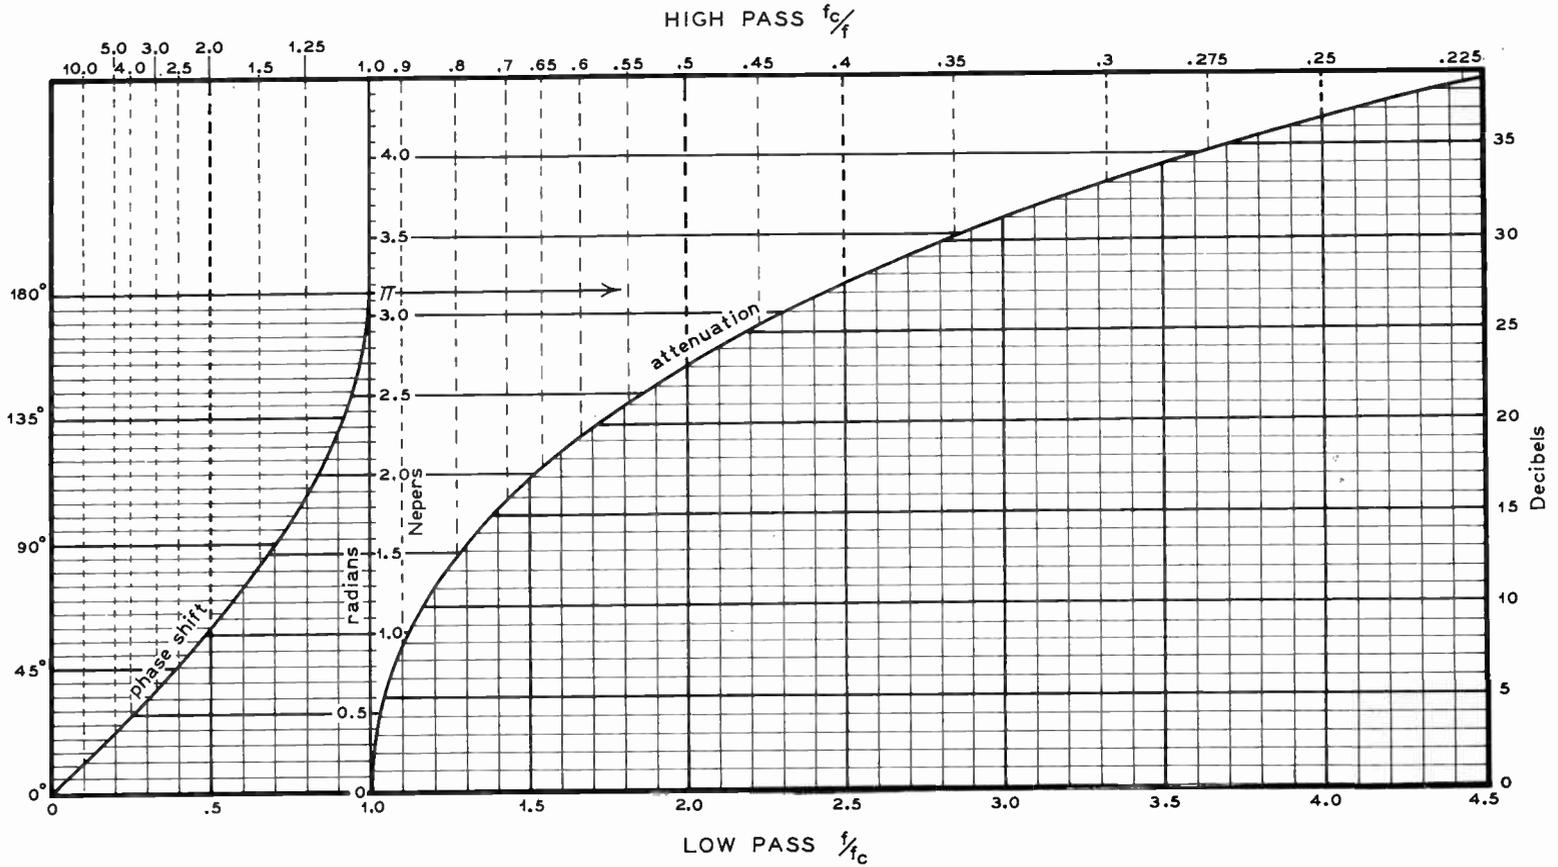

Fig. 1—Chart for Estimating Attenuation and Phase of Frequency Ratios.
**T**HE performance of a filter, i.e. its effect on the magnitude and the phase of the frequencies in the current which it passes to the load and which it by-passes from the load, is readily determined when the impedance of the filter is matched to that of the load so as to suppress any reflected wave. The two curves in Fig. 1 give approximate values of phase shift and attenuation for low-pass and high-pass filters of either the  $\pi$ - or the T-type. Whilst it is drawn to illustrate the characteristics of a low-pass section referred to the bottom scale, the numerical values also apply to a high-pass section when the top scale is employed. Before applying the chart to its primary purpose, that of determining the cut-off frequency which will minimize the ripple or hum due to an objectionable frequency in a rectified a-c power supply, let us study its general construction and meaning.